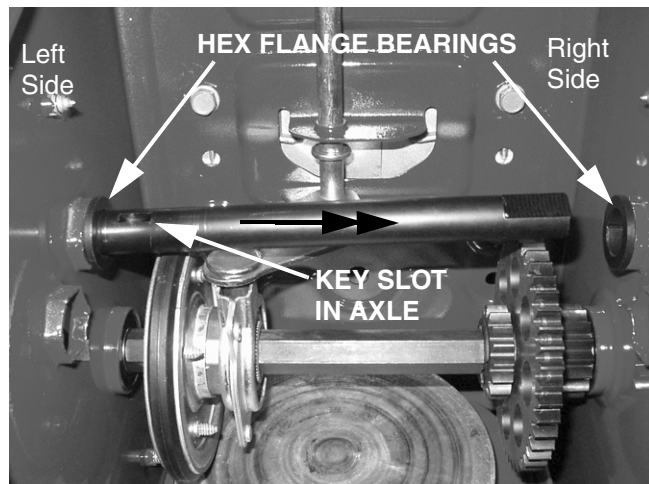

FIGURE 14
29. From the inside of the frame, insert the Hex Flange Bearings, Item 16, into the appropriate hex holes, marked in Step 13, in the left and right sides of the frame. See Figure 14.
30. Lubricate the bore and flange of the both hex flange bearings with Lithium Grease, Item 14. With the Axle, Item 15, positioned so that the key slot is on the right hand side, slide the axle through the left side hex flange bearing as shown in Figure 14.